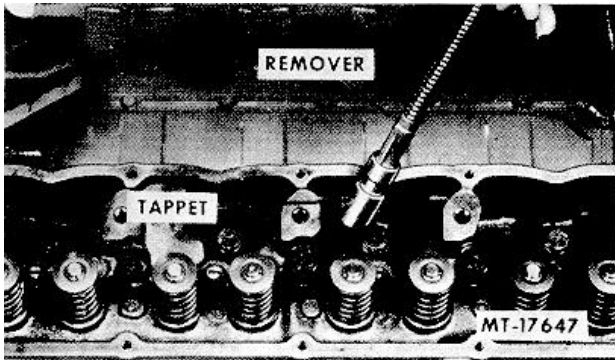

Fig. 29 Using SE-1947 Remover for Hydraulic Valve Lifters
31. If no further disassembly is to be performed, use SE-1947 Remover to remove the hydraulic valve lifters or tappets (Fig. 29). If further disassembly is required, the tappets may be removed after the tappet covers are removed.